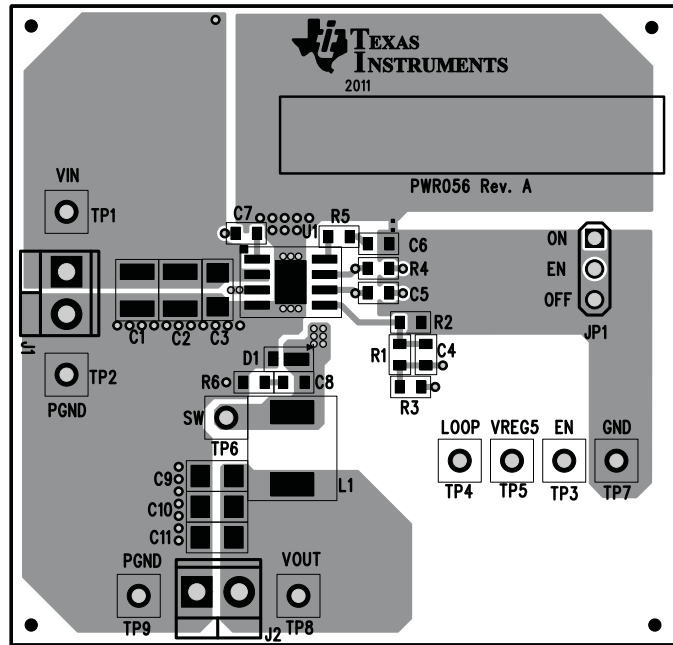

Figure 12. Top Assembly
The board layout for the TPS54229EVM-056 is shown in Figure 12 through Figure 16. The top layer contains the main power traces for VIN, VO, and ground. Also on the top layer are connections for the pins of the TPS54229 and a large area filled with ground. Many of the signal traces also are located on the top side. The input decoupling capacitors are located as close to the IC as possible. The input and output connectors, test points, and all of the components are located on the top side. An analog ground (GND) area is provided on the top side. Analog ground (GND) and power ground (PGND) are connected at a single point on the top layer near C6. The two internal layers are completely dedicated to power ground planes. The bottom layer is primarily power ground. A copper pour area on the bottom layer is used to connect the switching node (SW) to the output inductor and the boost capacitor. Traces also connect enable control jumper, EN, VREG5, and LOOP test points, and the feedback trace from VOUT to the voltage setpoint divider network.